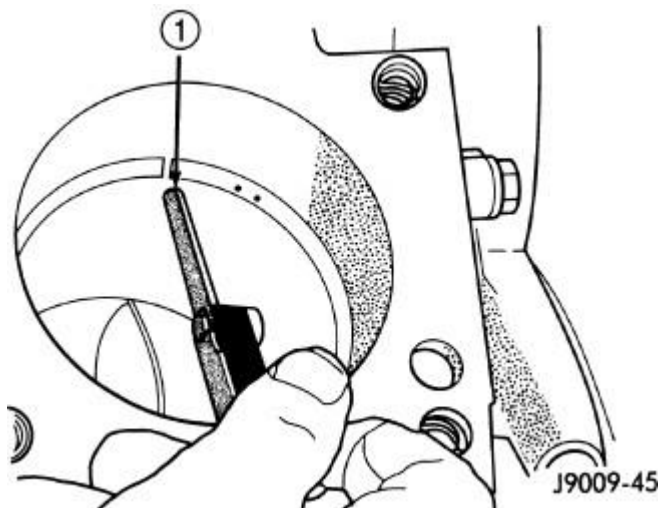

Fig. 236: Measuring Piston Ring End Gap
1. Wipe cylinder bore clean. Insert ring and push down with piston to ensure it is square in bore. The ring gap measurement must be made with the ring positioning at least 12 mm (0.50 in.) from bottom of cylinder bore. Refer to **Fig. 236**. Check gap with feeler gauge. Top compression ring gap.30 to.45 mm (.0118 to.0177 in.). Second compression ring gap.30 to.45 mm (.0118 to.0177 in.). Oil control ring gap.25 to.50 mm (.0098 to.0196 in.).